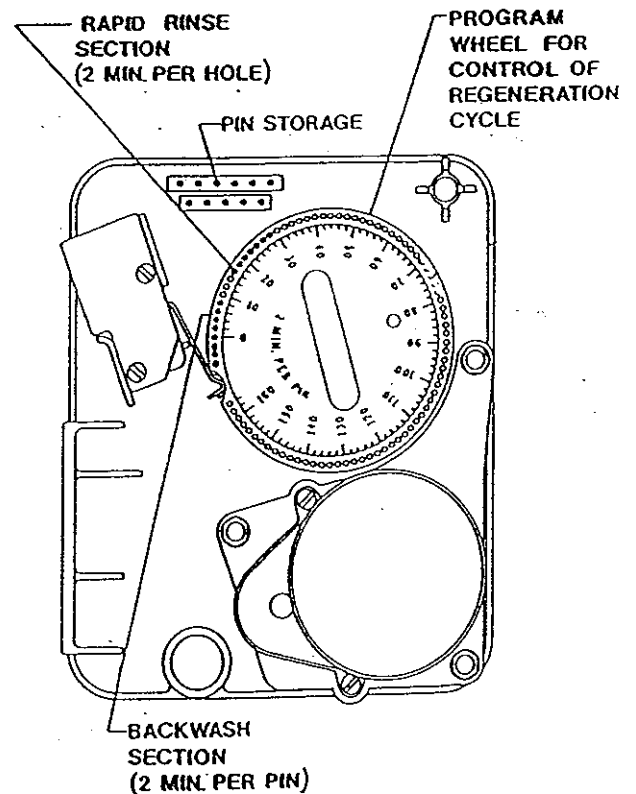

Figure 2
Each control valve position can be manually selected by rotating the **manual regeneration knob** clockwise until first microswitch located on rear of timer door is aligned with each cycle position on the program wheel. (See Figure 2.)
1. Manually index manual regeneration knob to **BACKWASH** position and allow water to run to drain for 3 to 4 minutes. (See Figure 2.)
2. Manually index manual regeneration knob to **RAPID RINSE** position and allow water to run to drain for 3 to 4 minutes. (See Figure 2.)
3. Manually index manual regeneration knob to **SERVICE** position. (See Figure 2.)